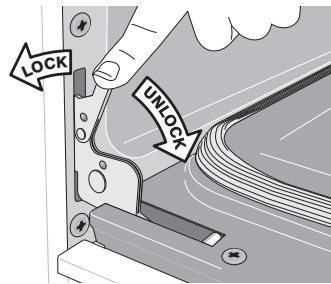

Figure 8: Door hinge locks
2. Pull the door hinge locks on both left and right door hinges down from the oven frame completely toward the oven door (See Figure 8). A tool such as a small flat-blade screwdriver may be required.
4. Push the door hinge locks up toward and into the oven frame on both left and right oven door hinges to the locked position (See Figure 8).